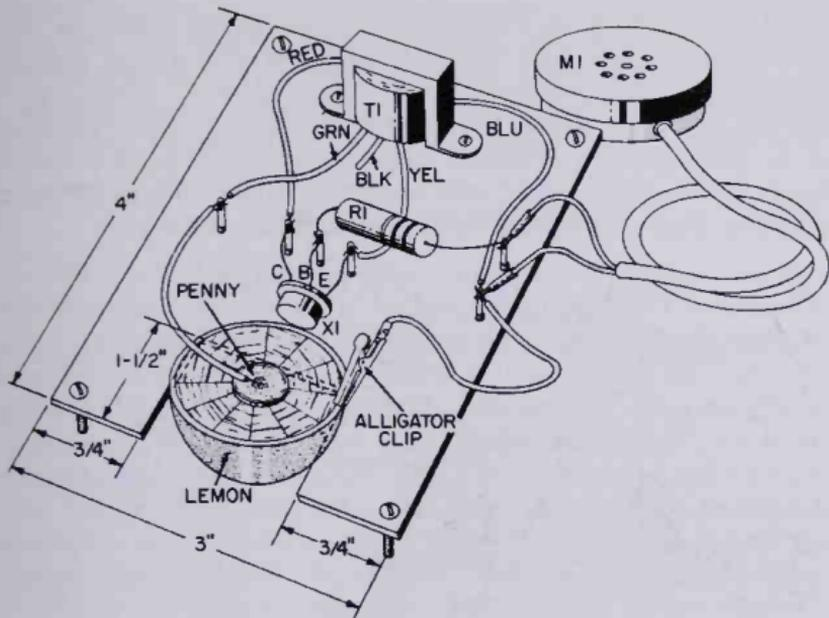

Fig. 3-3. Pictorial diagram.
Your transformer may not have the same color coding shown in the drawings. In this instance, the correct connections aren't difficult to figure out. Assuming you have purchased the transistor driver transformer specified in the Parts List, it will have two sets of leads. The secondary (rated at 2K, or 2000 ohms) usually has three leads. Checking the information supplied with your transformer, connect one secondary wire to the emitter (E) of the transistor (Figs. 3-3 and 3-4) and the other to the lead that goes to the penny. (Do not use the center-tap wire, if the secondary has one.) The primary of the transformer is the 10K side. Its two leads connect to the transistor collector (C) and to the wire with the alligator clip. Important: If your transformer does not have the color coding of the model described here, the circuit may